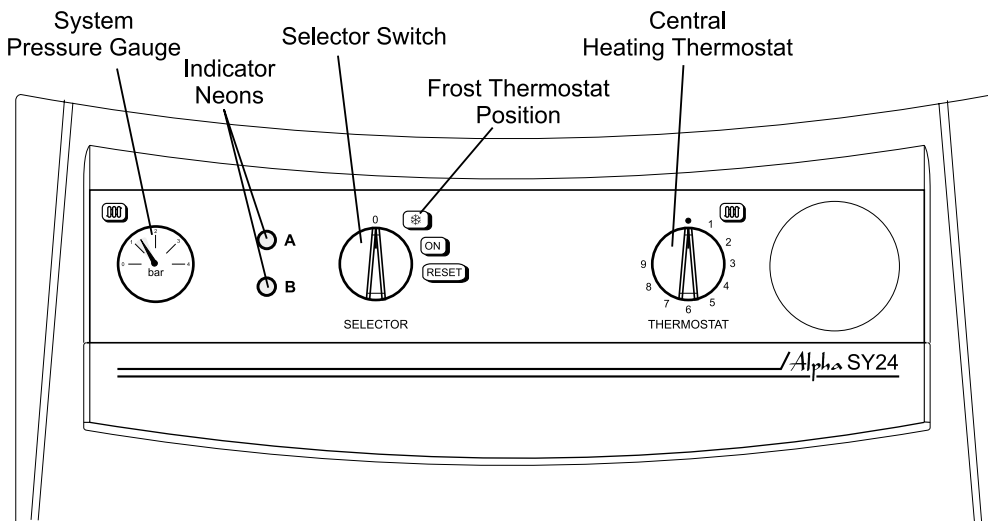

Fig. 15
5.2 BOILER CONTROLS - Fig. 15
5.4 INITIAL LIGHTING - Refer to Fig. 15
If there is a call for heat, the pump will start to circulate the central heating water. The fan will run at full speed; once the air pressure switch is proved the burner will light. The burner output then automatically adjusts to suit the system demand; as the temperature of the water in the boiler approaches that set by the adjustable central heating thermostat (see Fig. 15), the burner output is reduced. When the set temperature is reached, the burner is turned off. The fan continues to run for 20 seconds and the pump continues to run for three minutes to remove residual heat build up in the boiler before allowing the burner to relight. If the CH sensor has not registered the pre-set temperature but the room thermostat is satisfied the burner is turned off. The fan continues to run for 20 seconds and the pump continues to run for 30 seconds. In this instance there is no 3 minute delay before the burner will relight.